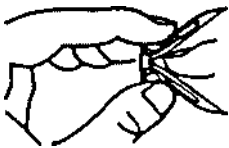

Figure 8 - Folding Anchor
2. Fold wall anchor as shown in Figure 8 below.